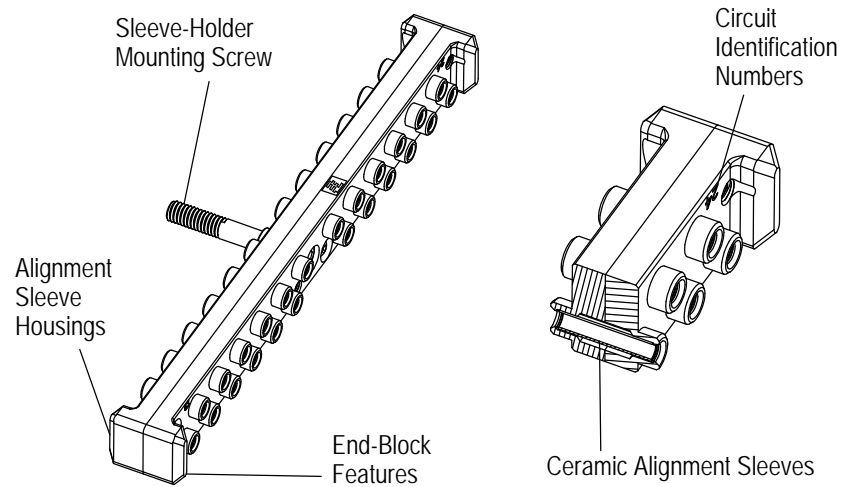

Figure 4
C. Sleeve Holder Subassembly (Figure 4)